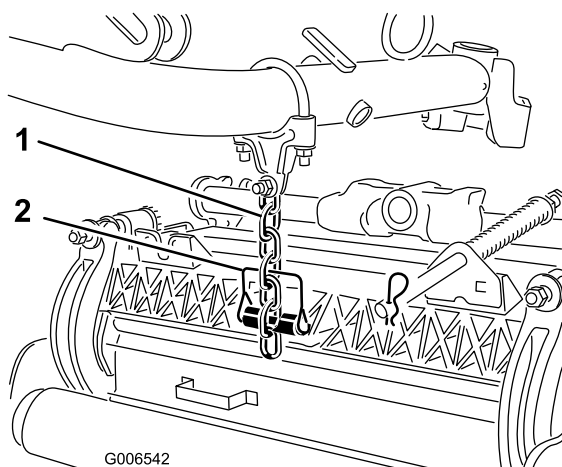

Figure 14
7. Secure the lift arm chain to the cutting unit chain bracket (Figure 14) with the snapper pin as follows: